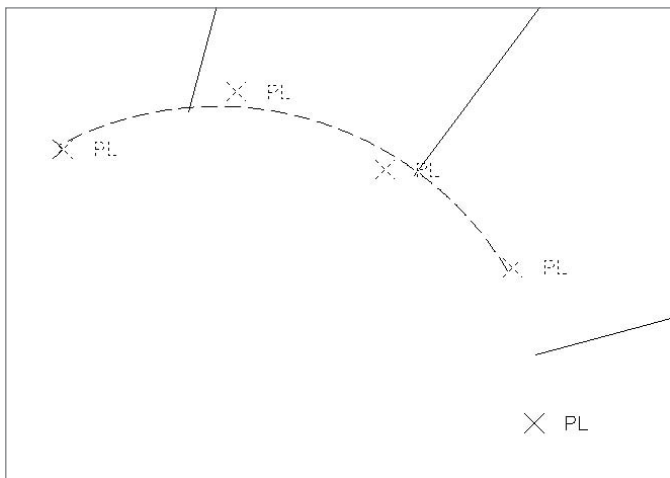

Figure A.1
6. At the `Select point objects or [Numbers/Groups/Undo]:` prompt, continue selecting the remaining PL points from left to right. As you select the points, a dashed, red preview arc will appear as shown in Figure A.1. After all of the points are selected, press `↵`. The Regression Data Panorama will appear.